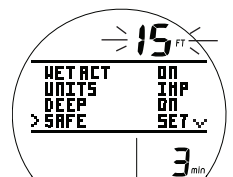

Fig. 26C - SET SS
- S (< 2 sec) while SET is flashing will display the Stop Depth and Time with the Depth setting flashing (Fig. 26C).